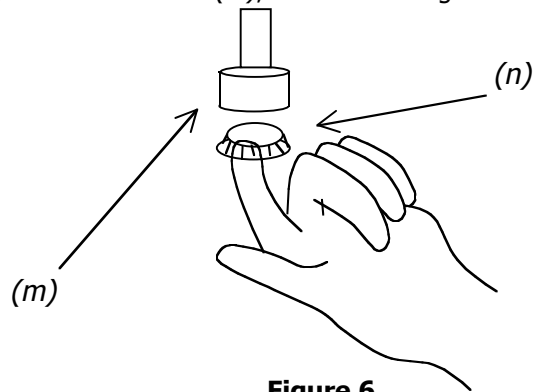

Figure 6
2. Place your cap (*n*) under the collar (*m*), as shown in Figure 6: the magnet will hold it.